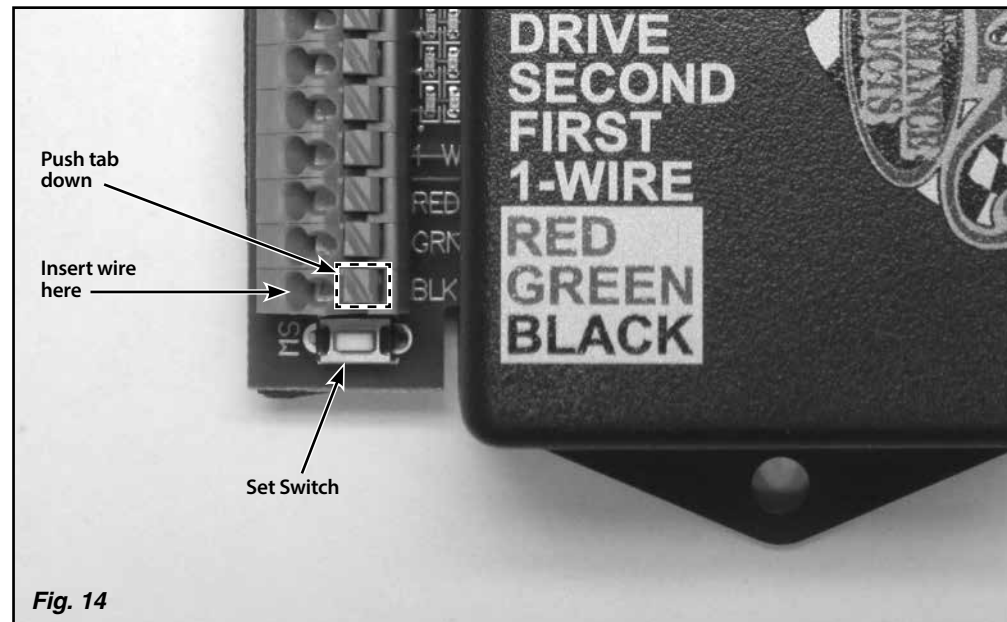

Fig. 14
The sensor has a 10 foot long gray cable attached to it. This cable contains 3 wires which connect to the decoder box. To connect the wires to the decoder box, push down on the tab to insert the wire into the terminal on the decoder box. **Fig. 14** Connect the red wire to the terminal marked RED. Connect the green wire to the terminal marked GREEN. Connect the black wire to the terminal marked BLACK.
Step 2: Press and hold the set switch. **Fig. 14** Turn the ignition key on while holding the set switch down. Then, release the set switch.